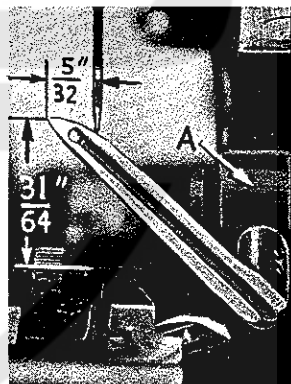

Fig. 10
Next turn handwheel until upper looper is at the left end of its travel; check dimensions of upper looper point from needle and throat plate (Fig. 10). If resetting is necessary, do it by moving upper looper holder (A, Fig. 10). For example: dimension $\frac{31}{64}$ inch is increased by turning upper looper holder counter-clockwise looking from left end of machine; and dimension $\frac{5}{32}$ inch is increased by pulling upper looper holder left, out of upper looper shaft. After these changes are made it may be necessary to turn upper looper around its shank slightly to maintain the condition shown in (Fig. 9).
If it becomes necessary to move looper thread pull-off (T) be sure to take up all end play in needle drive shaft before tightening. If upper looper is located so that it is higher over throat plate than recommended in (Fig. 10), the purl will tend to form near top edge. If upper looper is too low, the purl will form nearer bottom edge.